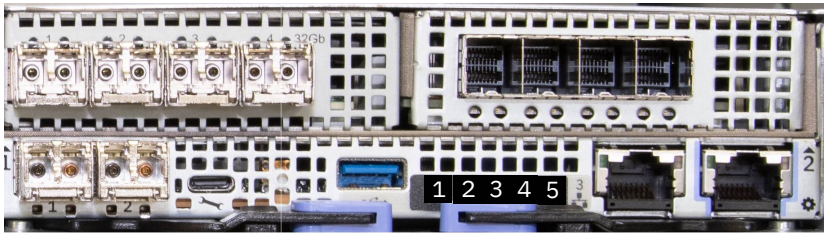

Figure 56. Canister power LED location
3. Wait for the shutdown operation to complete. When complete, the power LED on each node canister, which is shown in Figure 56 on page 107, blinks at a 1 Hz rate (slow flash). Refer to the LEDs page for details.